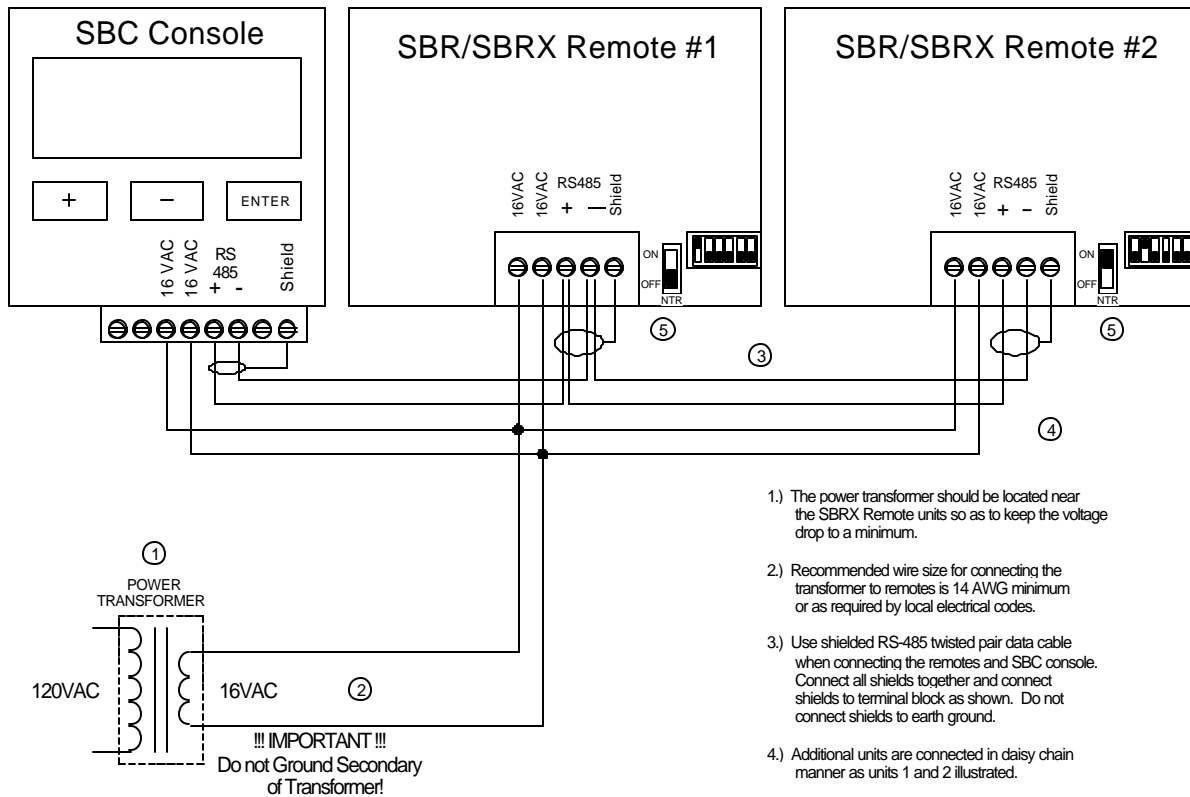

FIGURE 1
The SBC requires a 16VAC-power connection from a transformer (such as 388-0023 or 388-0039) and an RS-485 data connection from the SBR, please refer to wiring diagram on the last page of this manual. The 16VAC power wires should be installed according to all local and/or national electrical codes. The recommended wire size for the power connection is 14 or 16 gauge wire. The SBC communicates with the SBR remotes via the RS-485 cable. This cable must be a good quality twisted pair with a shield (e.g., Belden 9463). The shield must be connected to the proper terminal on the terminal block in both the SBC and the SBR. The RS-485 data cable must run from one remote to the next (daisy-chained; see Figure 1) and all connections are to be made at the terminal blocks. All communication is done over the same twisted pair wire. Branch circuit wiring is not allowed on the RS-485 network. The maximum overall length for the RS-485 cable is 4000 feet. Please verify the polarity of the RS-485 wires during installation. The system will not work if RS-485 wires are reversed. The SBC can communicate with up to 30 SBR remotes; therefore, the address in each SBR must be set correctly. The factory default address for the SBR remote is one (1). To change the bin address refer to the SBR manual or the diagram on the inside cover of the SBR.